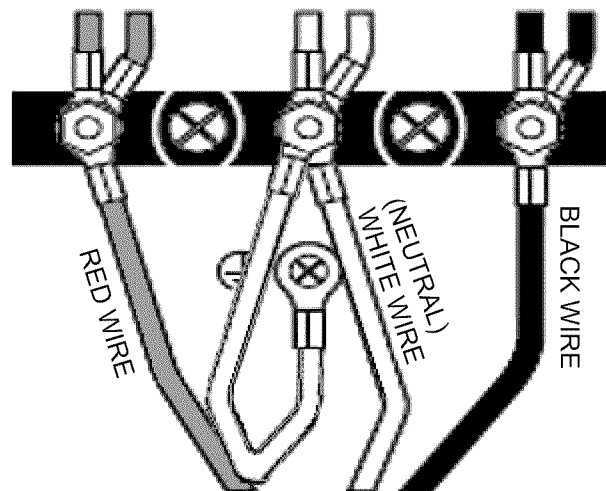

Figure 14: 3-Wire Connection
3. Secure the neutral, grounded wire of the supply circuit, to the center stud (silver colored) of the terminal block (see *Figure 14*).